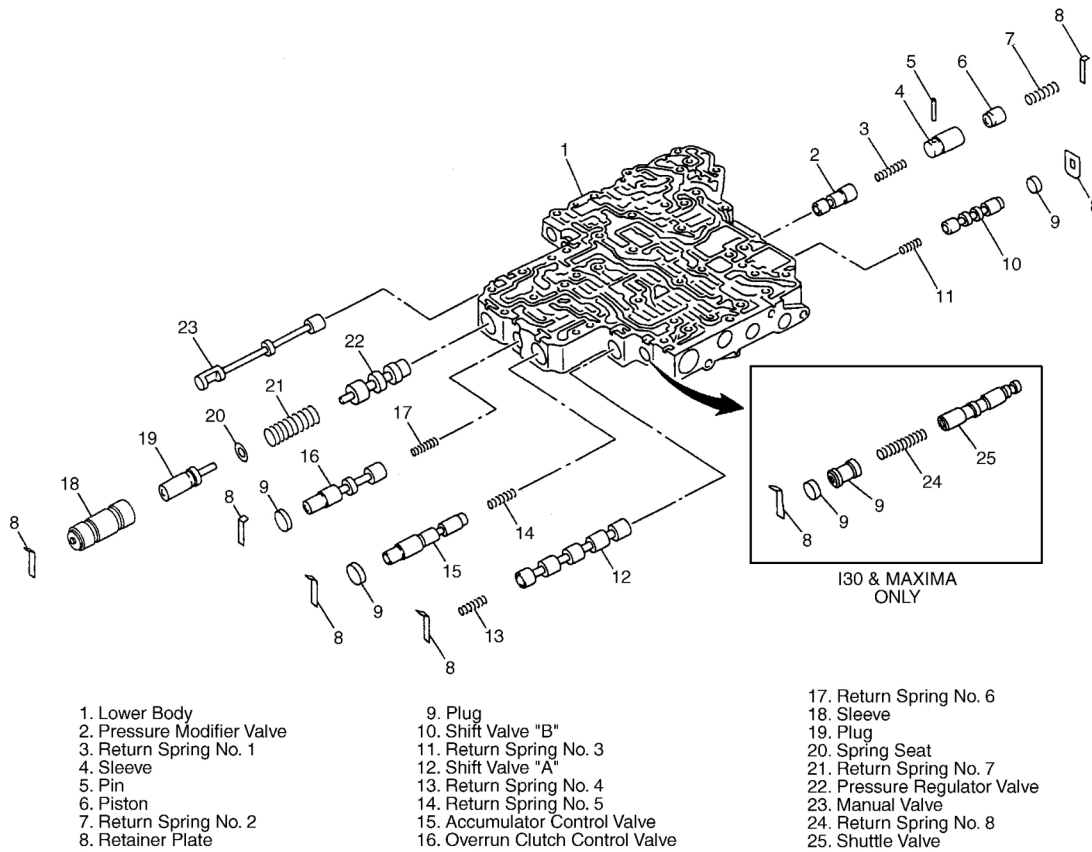

Fig. 27: Exploded View Of lower Valve Body
Using a screwdriver, pry out retainer plates. Remove retainer plates while holding spring, plugs and sleeves. See Fig. 27. Remove plug slowly to prevent sudden release of internal parts. Place mating surface of valve body face down and remove internal parts. If valve is hard to remove, lightly tap valve body with soft hammer. DO NOT use a magnet to remove valves. DO NOT drop or damage valves or sleeves.
(1) For spring locations, refer to illustration. See **Fig. 27**.